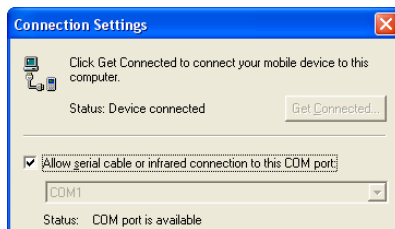

Figure A-6. Connection Settings for Multiple COM Ports
3. On the *Connection Settings* dialog box, set the following parameters (Figure A-6):